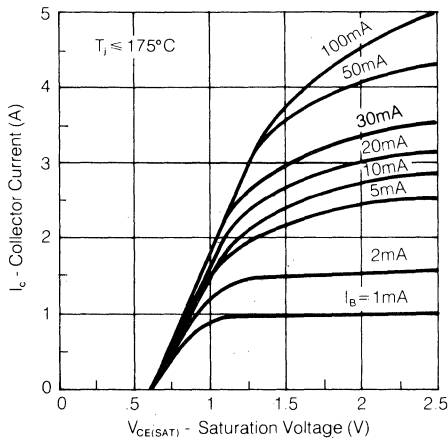
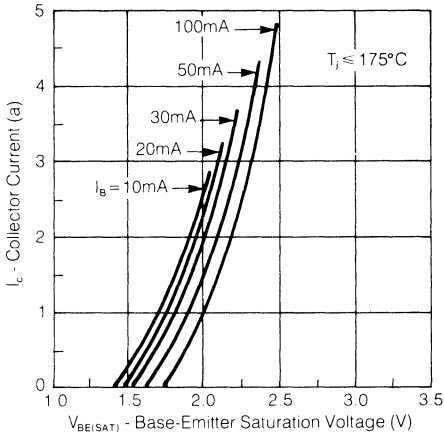

Figure 3. U2TA506 Series. Maximum Saturation Voltage vs. Collector Current
Figure 6. U2TA506 Series Maximum Base to Emitter Saturation Voltage vs. Collector Current
Where I_{pk} is the peak collector current of a square pulse of current equivalent to the applied current pulse, $V_{CE(SAT)}$ is the transistor or Darlington saturation voltage at I_{pk} , $V_{BE(SAT)}$ is the base-to-emitter saturation voltage and I_B is the base current. Figures 3, 4, and 5 are plots of $V_{CE(SAT)}$ for the U2TA506, UPTA510 and UPTB520 series Darlington transistors. Figures 6 and 7 are plots of the $V_{BE(SAT)}$. These curves can be used in determining P_{pk} .
$$P_{pk} = (V_{CE(SAT)})(I_{pk}) + (V_{BE(SAT)})(I_B) \dots (5) \\ = (1.5\text{V})(3\text{A}) + (2.15\text{V})(30\text{mA}) \\ \text{(from Figures 3 and 6)} \\ = 4.56\text{W}$$